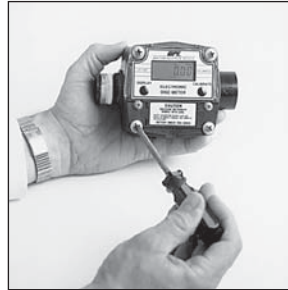

Figure 7
1. Remove the two large and two small screws from the battery coverplate located on the lower portion of the meter face. (Figure 7)